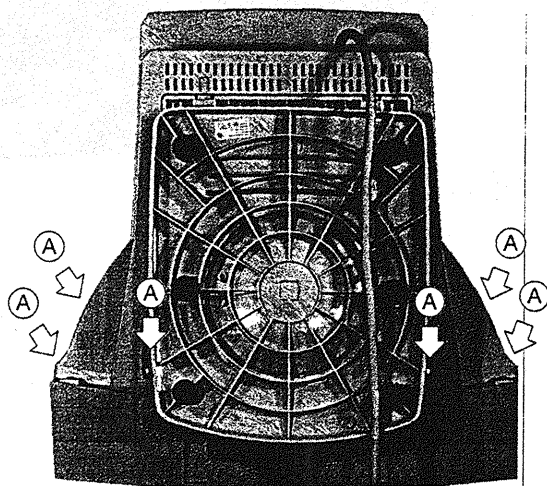

Figure 2-1
1. Remove the six screws at the rear cover. Refer to the figure 2-1 (A).